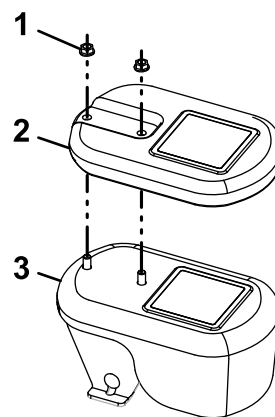

Figure 8
- Add the flat weight to the weight assembly for a machine with a 122 cm (48 inches) mower deck (Figure 8).